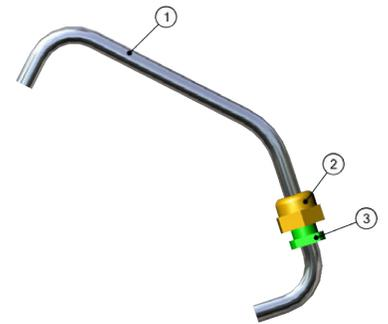

Fig. 7: Soap Spout with nut and bushing
1. To install - remove the bushing (Fig. 7 - Item 3 shown in green).